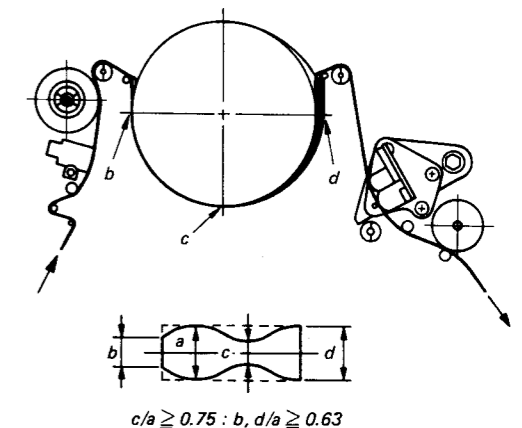

Fig. 1-4-11 Envelope waveform adjustment
3. Make sure the video envelope waveform (in its maximum output) meets the specification shown in Fig. 1-4-11. If not, adjust as follows:
1. Make recordings on T-120 and T-160 tapes in both SP and EP modes, and make sure the playback output envelope meets the specification shown in Fig. 1-4-11.